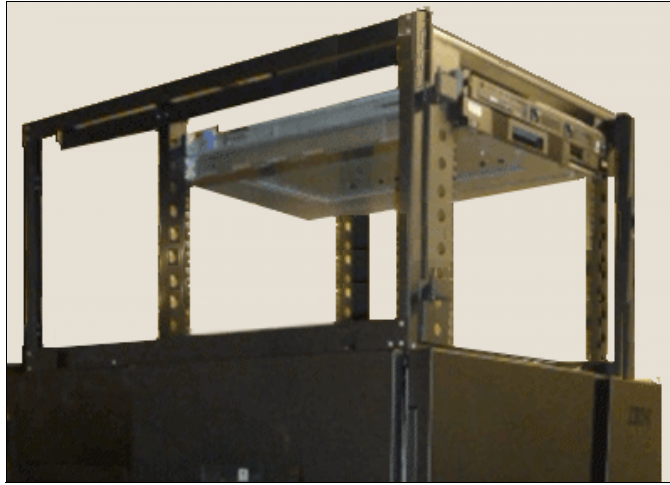

Figure 1-21 Top rack without covers
- ▶ TopRack can be reinstalled with the switches on the TS4500; the existing TS3500 TR1 can be moved to the TS4500 (see Figure 1-21 on page 33).
Figure 1-21 shows the top rack without covers.